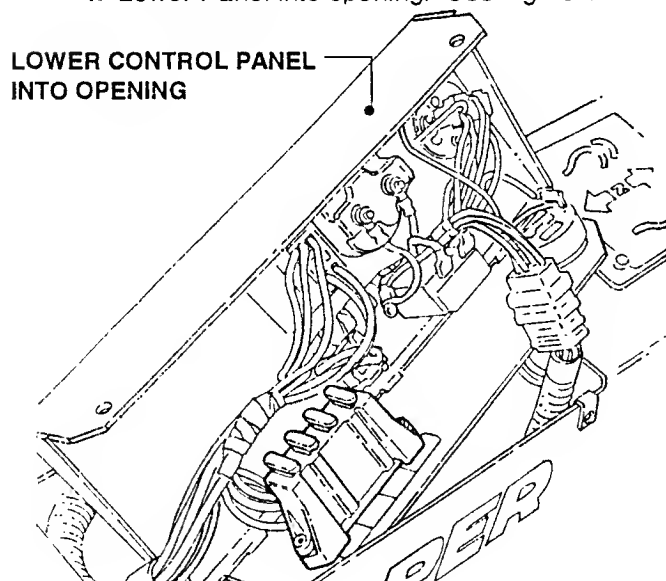

FIGURE 6.10
2. Remove the two (2) screws from the Control Panel.
4. Lower Panel into opening. See Figure 6.10.